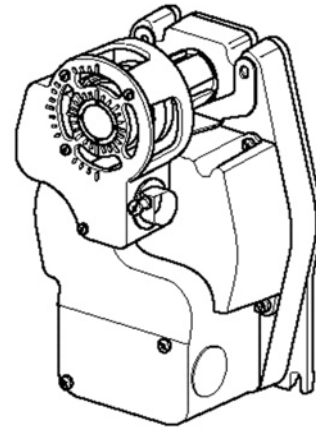

Figure 1. Honeywell ML4X02/8X02, ML4115/8115 or MS4X09/8X09 electric actuators with MLS-300 (Honeywell) position indicator package.
2. Align the switch hub with the setscrews on the actuator. See Figure 1.